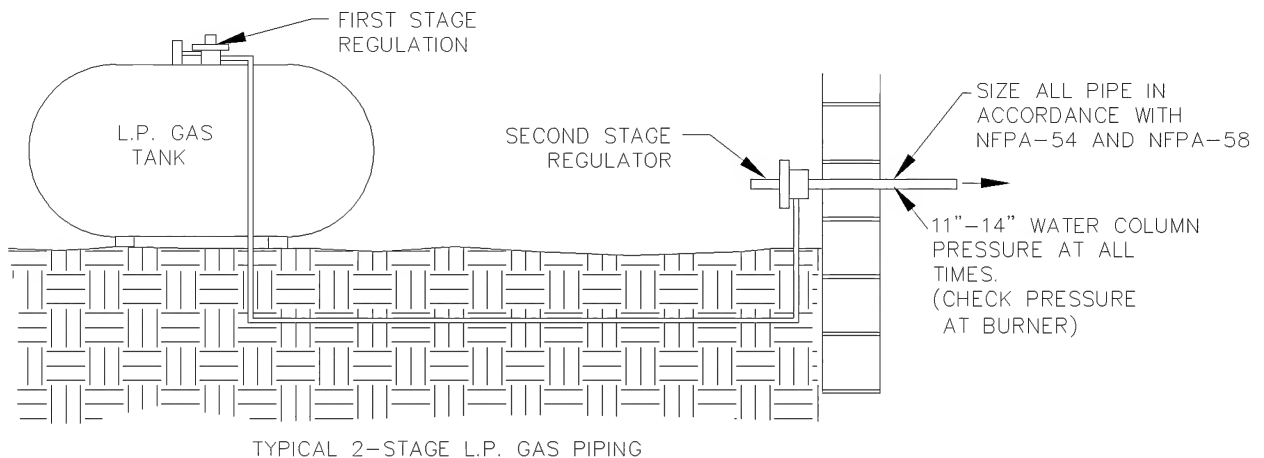

Figure 17
1. Experience has proved that the pressure drop in the gas line running from the outside propane gas tank to the gas appliances in a home is the most frequent cause of equipment malfunctions. A single pressure regulator, located at the tank, will not reliably regulate the high tank pressures (up to 200 lbs.) down to 11" w.c. Varying pressures will occur at the appliances as outside temperatures and usage demands vary. Two stage regulation is the only effective method of controlling these variables. (see Figure 17).